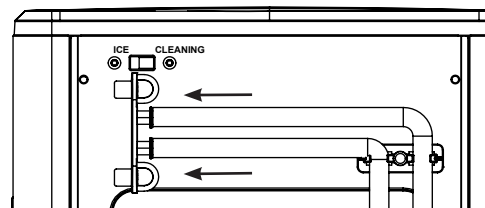

Figure 5
10. Unhook the top of the drain hoses at the back of the unit. See figure 5.